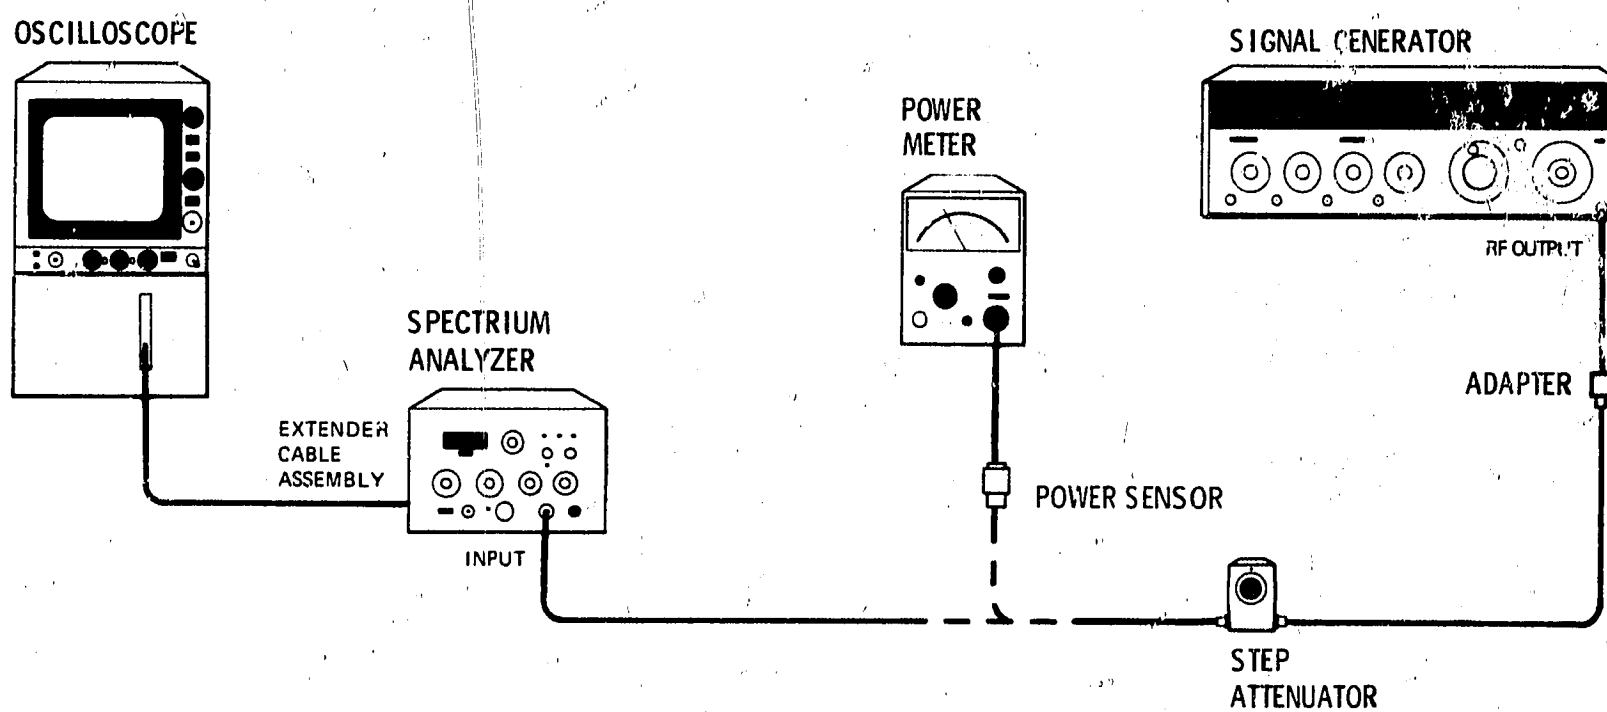

Figure 5-2. Second Converter Adjustment Test Setup
4. Connect equipment as shown in Figure 5-2, connecting thermistor mount to step attenuator. Set attenuator to 0 dB. Set signal generator frequency to 250.0 MHz.